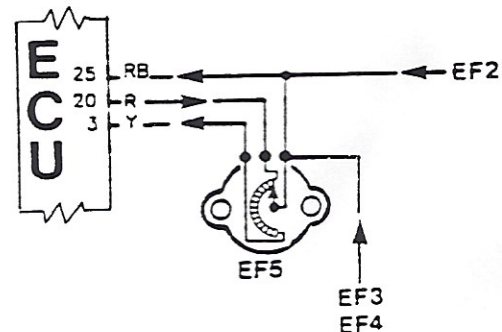

fig.49
The throttle potentiometer (See Figure 49) has three connections to the ECU, a yellow wire (Y) to pin 3, a red wire (R) to pin 20 and red/black wire (RB) to pin 25. Pin 25 is a shared earth return from the air flow meter (EF2) and the coolant and fuel temperature sensors (EF3) and (EF4).